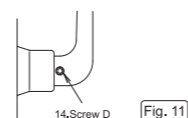

Fig. 11
- Tighten the Screw D attached to the handle using the hexagonal wrench (size:2.5)(Fig.11).